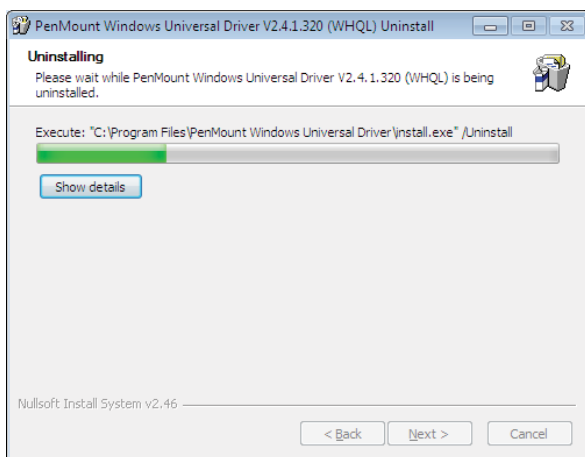

Fig.11
Step 3: The system will uninstall the driver (Fig.11).